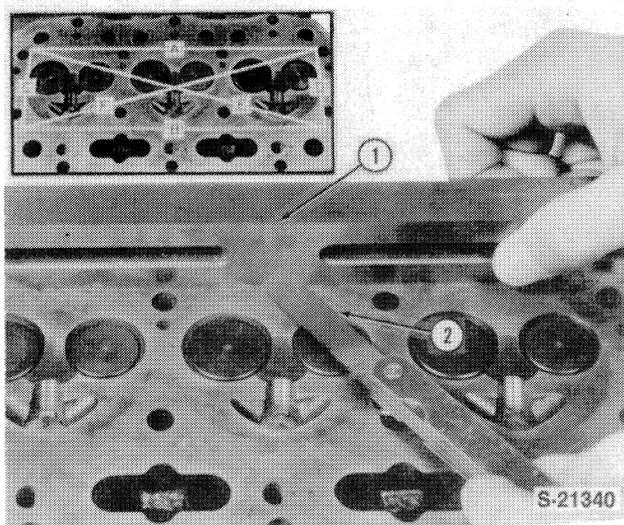

FIGURE 1-31
7. Using a straight edge and feeler gauge, check the cylinder head for warpage as shown, Figure 1-31.